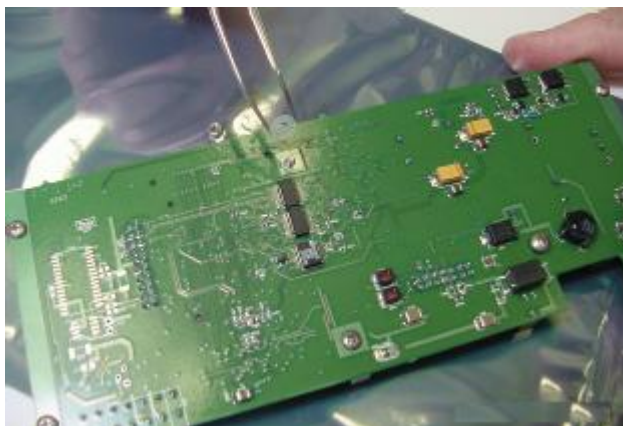

Figure 5.3c
- (4) Turn the assembly over. Replace the nylon washer and secure the nut to the back of the long screw going through the mounting bar as depicted in **Figure 5.3c**.
- (5) Reassemble the scanner as previously described and test for proper operation.